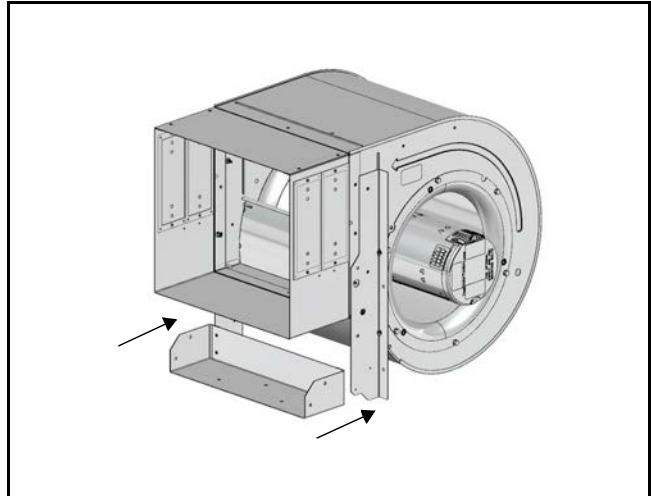

Fig. 27
4. Slide the blower assembly away from mounting bracket. (See Fig. 27.)